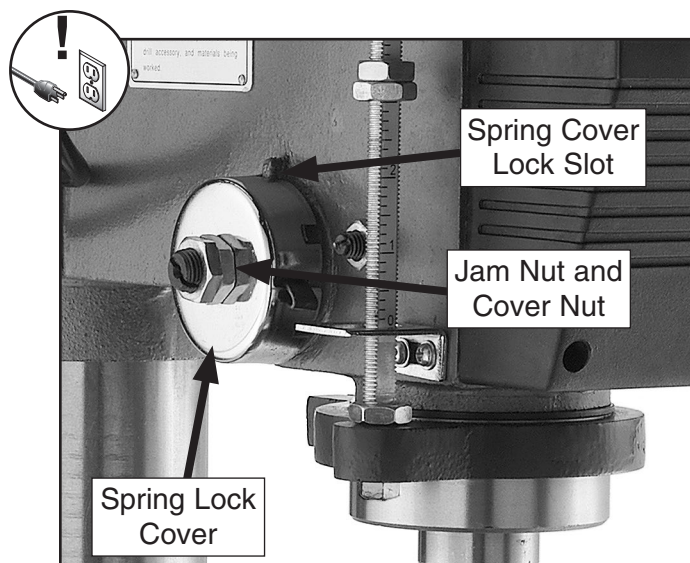

Figure 39. Feed shaft return spring assembly.
2. Wipe off any oil on the spring lock cover so it does not slip in your fingers when you hold the cover from spinning (see **Figure 39**).